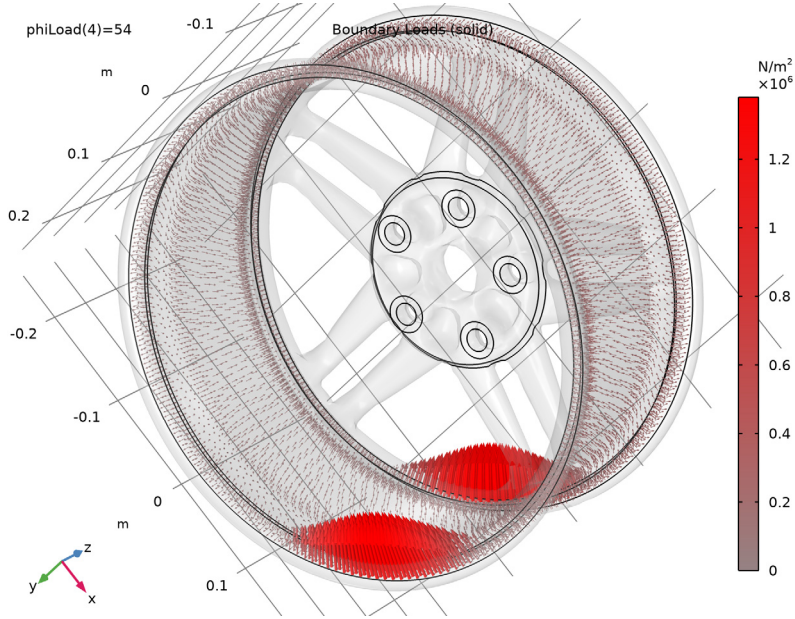

Figure 2: Pressure and tire load when rotated 54° from the center of the first pair of spokes
- The total load carried by the wheel corresponds to a weight of 1120 kg. It is applied as a pressure on the rim surfaces where the tire is in contact. Assume that the load distribution in the circumferential direction can be approximated as $p = p_0 \cos(3\vartheta)$, where ϑ is the angle from the point of contact between the road and the tire. The loaded area thus extends 30° in each direction from the peak of the load. Four different load cases are analyzed, where the center of the peak load is rotated 18° each time. In this way the whole load cycle for the rotating wheel can be covered. The pressure load and the load distribution carried by the wheel are shown in Figure 2.